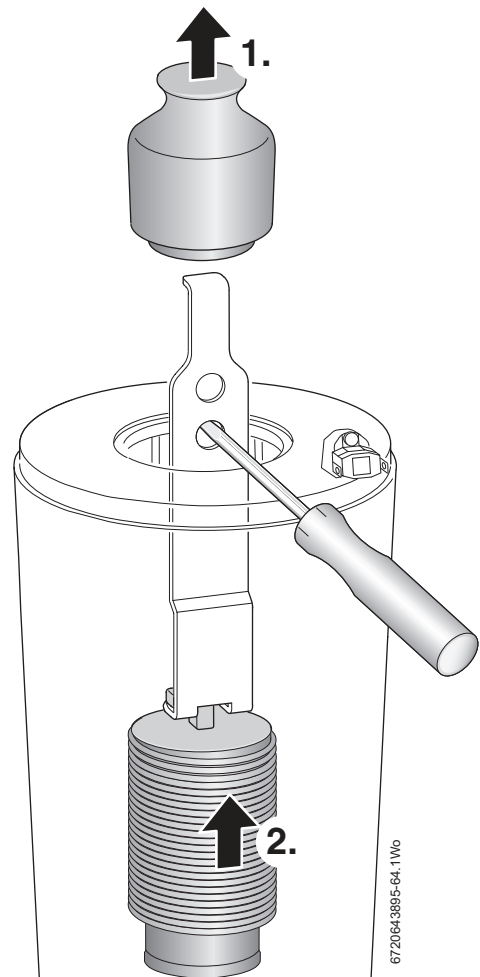

Fig. 88 Baffle removal
Refer to figure 88.
If the lower baffle is stuck, it may be necessary to use the “Baffle removal tool” from the heat exchanger cleaning kit - 7 716 192 312, as shown in figure 88.
The baffles (1) and (2) must be refitted into the heat exchanger in the order shown in figure 88. Failure to do so may result in damage to the boiler.